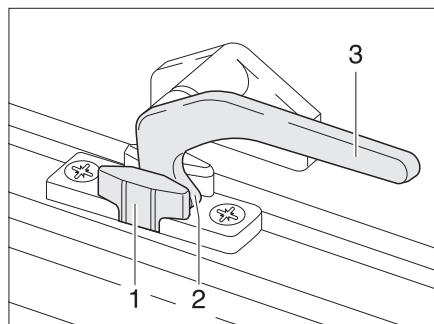

Fig. 43 Catch lever in the "continuous ventilation" position
- "Continuous ventilation" (Fig. 43)
- Turn the catch lever (Fig. 43,3) a quarter turn towards the centre of the window.
- Turn the catch lever a quarter turn towards the window frame. The locking catch (Fig. 43,2) has to be moved into the recess of window catch (Fig. 43,1).